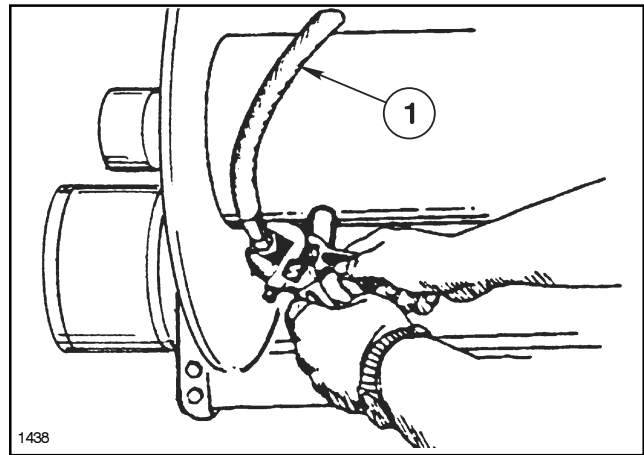

FIG. 3
1. Hand thread the male hose connector into the connecting tube on the Reel Shaft. See FIG. 3.